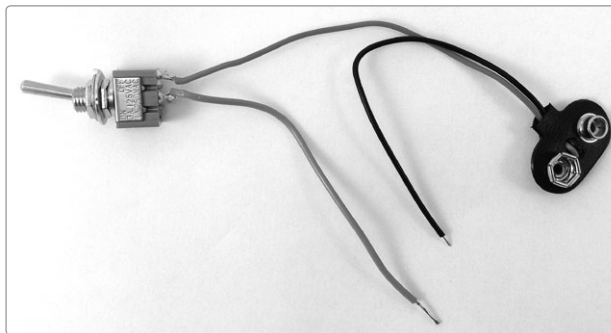

FIGURE 13-5: *The power switch assembly*
- Step 6** For the power switch, take the other toggle switch and solder the last 4-inch lead to either lug. Solder the red lead from your battery clip to the remaining lug, as shown in Figure 13-5. Good job! Set these three pieces of prepared hardware aside for now.